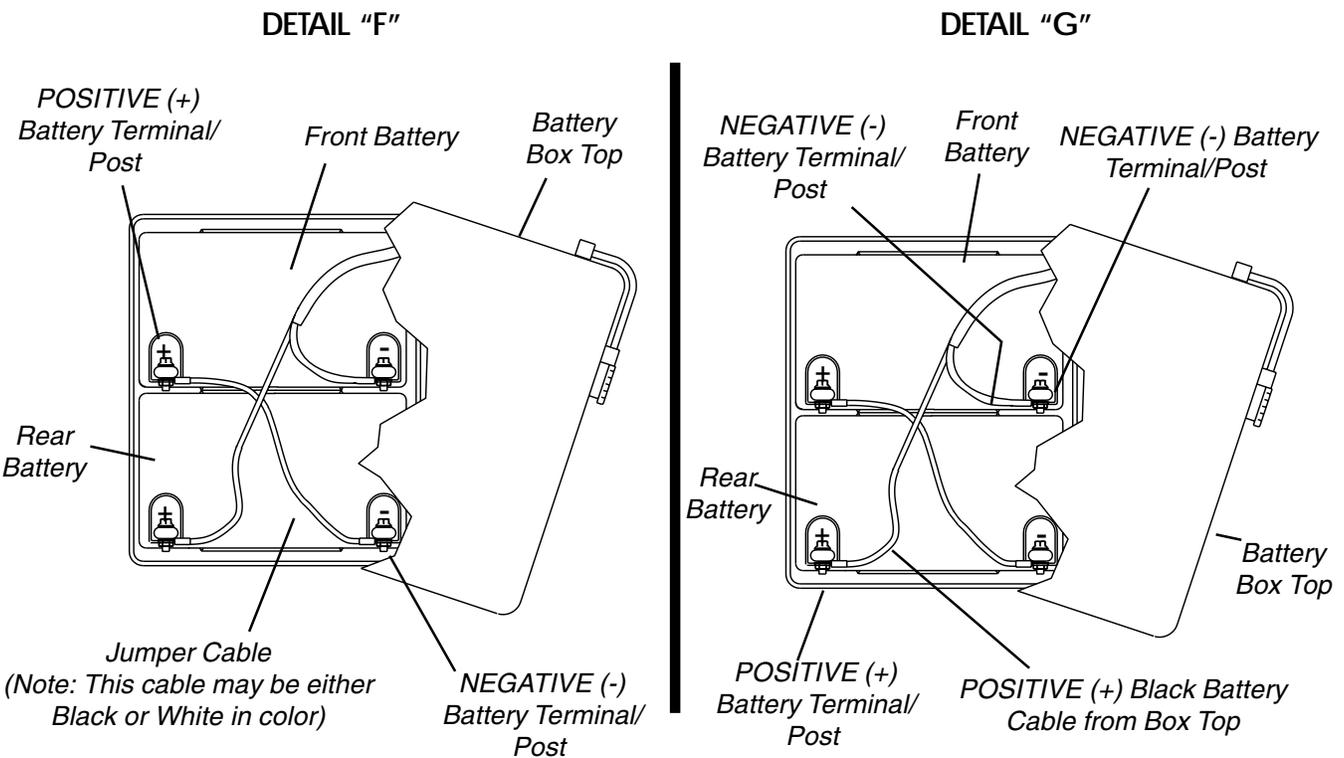

FIGURE 8 - CONNECTING BATTERY CABLE(S) TO BATTERY(IES)
3. Connect the battery cable (jumper) terminal end to NEGATIVE (-) battery terminal/post of REAR battery. (DETAIL "F" in FIGURE 8)
4. Connect battery cable (jumper) terminal end to POSITIVE (+) battery terminal/post of FRONT battery. (DETAIL "F" in FIGURE 8)
5. Connect NEGATIVE (-) BLACK battery cable from box top to NEGATIVE (-) battery terminal/post of FRONT battery. (DETAIL "G" in FIGURE 8)
6. Connect POSITIVE (+) RED battery cable extending from box top to POSITIVE (+) battery terminal/post of REAR battery. (DETAIL "G" in FIGURE 8)